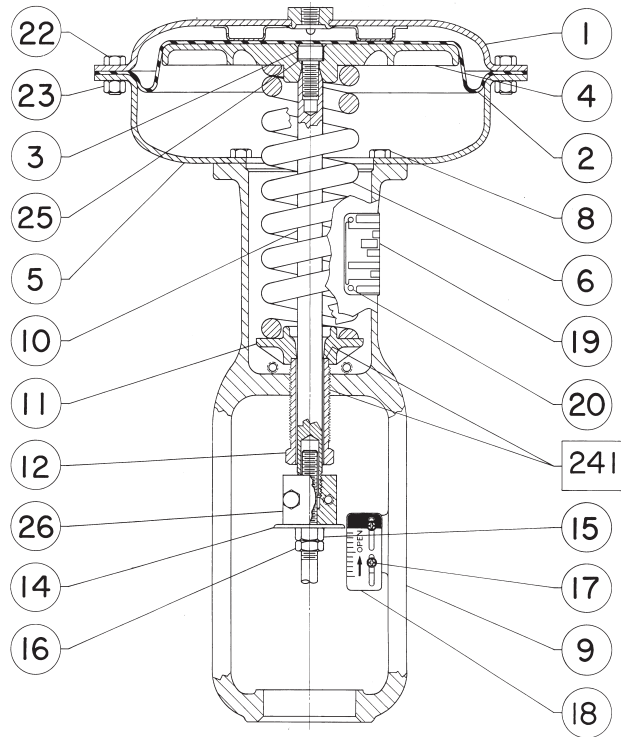

Figure 6. Fisher® 657 Actuator Sizes 30 through 60
6. Assemble the two levers (key 146) with the cap screws (key 156) for handwheel assemblies for sizes 45, 50, and 60 actuators, or with the machine screws (key 156) for handwheel assemblies on sizes 34 and 40 actuators.
7. If the handwheel assembly was removed from the yoke (key 9, figures 6, 7, or 8), remount the handjack assembly to the yoke using the dowel pins for alignment. Position the U-bolts (keys 166 and 143) on the yoke, and hand-tighten the hex nuts (keys 170 and 147) to hold the handwheel assembly in position. Cap screws (key 163) should be tight against the yoke legs to provide stability. Tighten nuts (key 144). Finish tightening the U-bolt nuts to 163 N•m [120 lbf•ft] (key 170) and 41 N•m [30 lbf•ft] (key 147). Be sure the handwheel assembly remains flat against the mounting pad and perpendicular to the yoke.
1. Remove the travel stop cap (key 187) and loosen the travel stop nut (key 137). Rotate the travel stop stem (key 133) counter-clockwise until the travel stop assembly is no longer compressing the spring.
2. Remove the upper diaphragm casing (key 1, figures 6, 7, or 8) as outlined in the Maintenance section.
5. **For sizes 30 through 60**, drive out the groove pin (key 140), and slide the pusher plate (key 135) off the travel stop stem (key 133).
1. Remove the travel stop cap (key 187). Unscrew the jam nut and stop nut (keys 189 and 54) until the travel stop assembly is no longer compressing the spring. Remove the jam nut and stop nut.
5. Loosen the stop nut (key 54), then unscrew the travel stop stem (key 133) out of the actuator stem. The lower diaphragm plate can now be removed.
1. Reassemble the up or down travel stop in the reverse order of the disassembly steps, being sure to apply lubricant as shown by the lubrication boxes (key 241) in figures 6, 7, 8, 14, 15, or 16, as appropriate.
Actuator Assembly (figures 6, 7, or 8)